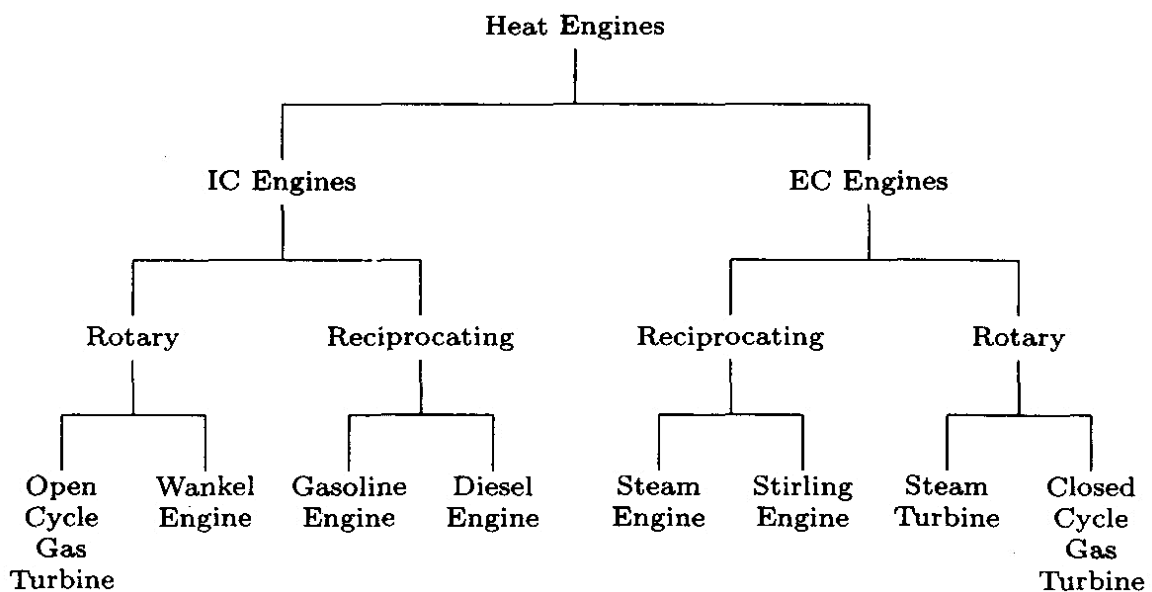

Fig 1.1 Classification of heat engines
- A detailed classification of heat engines is given in Fig. 1.1.